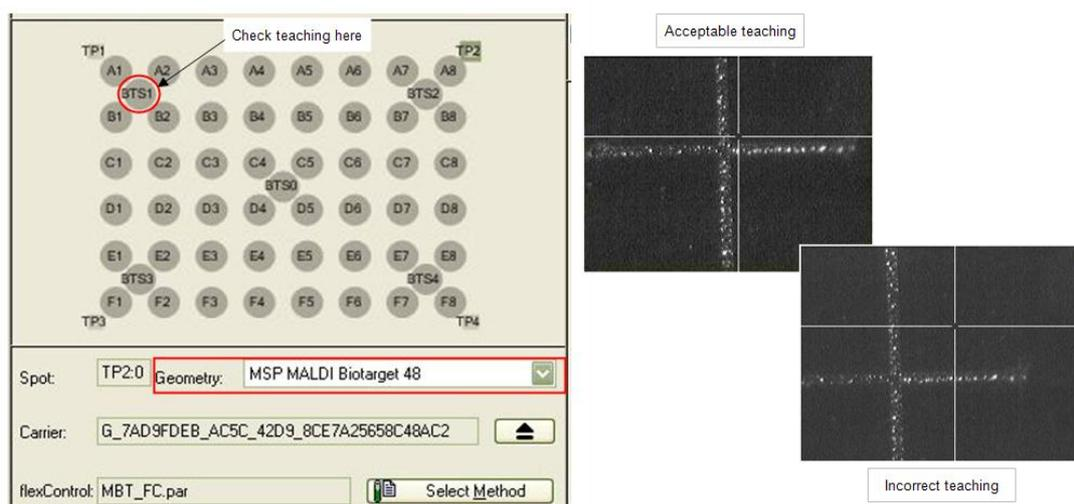

Figure 6 Load the correct target geometry in flexControl and check that the spot teaching is correct.
1. Make sure that **MSP MALDI Biotarget 48** is selected¹ in the **Geometry** drop-down list of flexControl (see Figure 6).
2. After the MALDI Biotarget 48 has been inserted into the mass spectrometer, always check the teaching by selecting **BTS 1** (see Figure 6) and checking whether the engraved cross on the target surface corresponds with the crosshair in the flexControl video window.